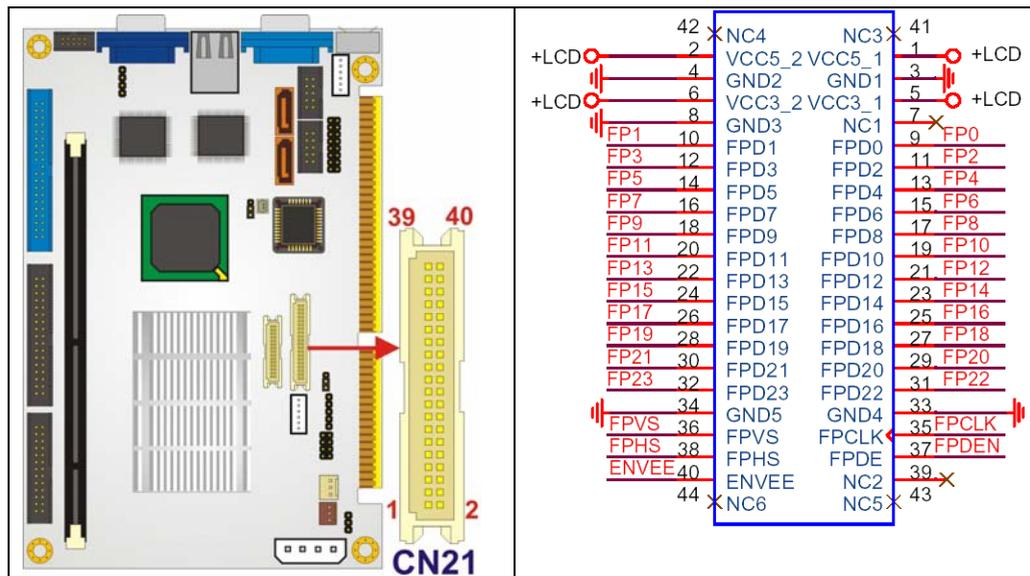

Figure 4-21: TFT LCD Connector Pinout Locations
- CN Location:** See Figure 4-21